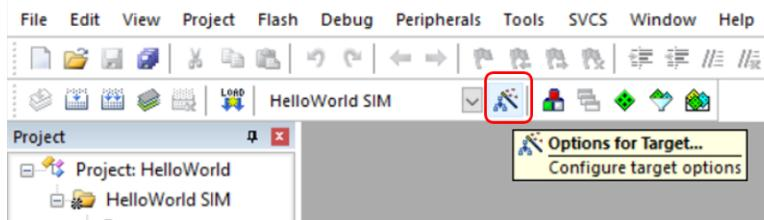

Figure 9.11: Keil IDE: Target Options Configuration
1. Bring up the target option configuration window by pressing the target options button (See Figure 9.11).